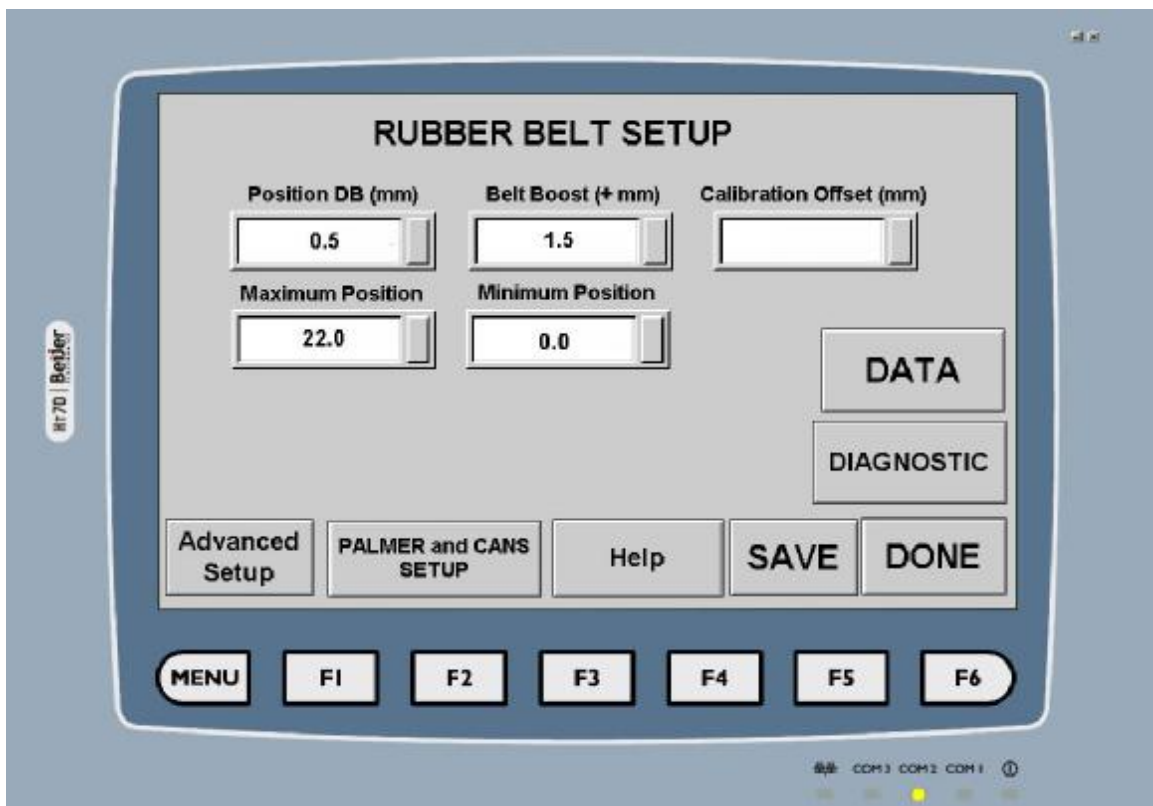

Figure 5
- d. **Rubber Belt Setup**- See Figure 5. The Rubber Belt Setup is a simple, but important component to the performance of the SMACpro system. During the installation, an ultrasonic sensor is installed and calibrated that shows the position of the rubber belt usually correlating with the manual belt setting that is used by the operator.